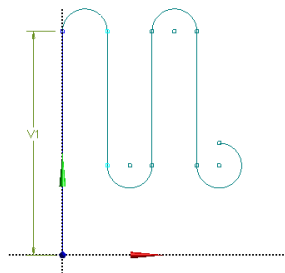

Figure 3-74 Placing the dimension of line 1
- Click on the left of line 1 to place the dimension, as shown in Figure 3-74.